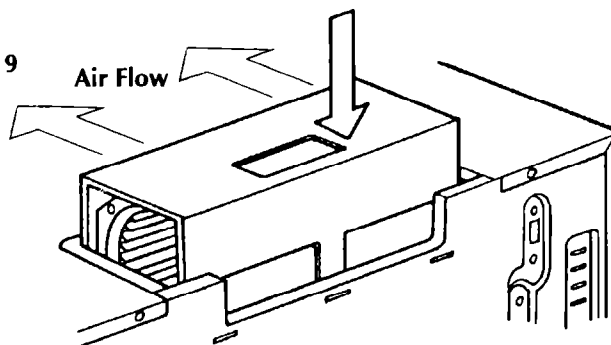

Figure 9
5. Replace hood fan unit into unit as shown in Figure 9